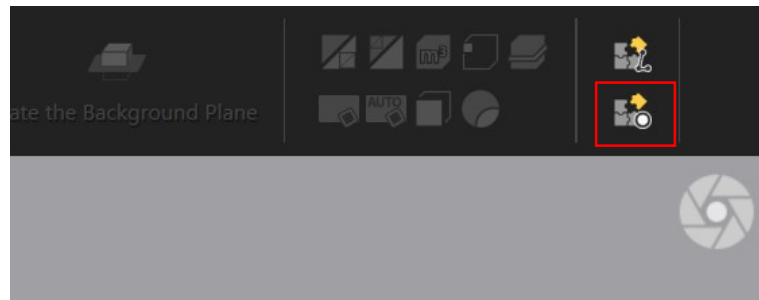

Figure 9-5 Import Point Cloud Projects in Model Stitching (Markers)
2. Click the Model Stitching (Markers) Button, which is shown in Figure 9-5;